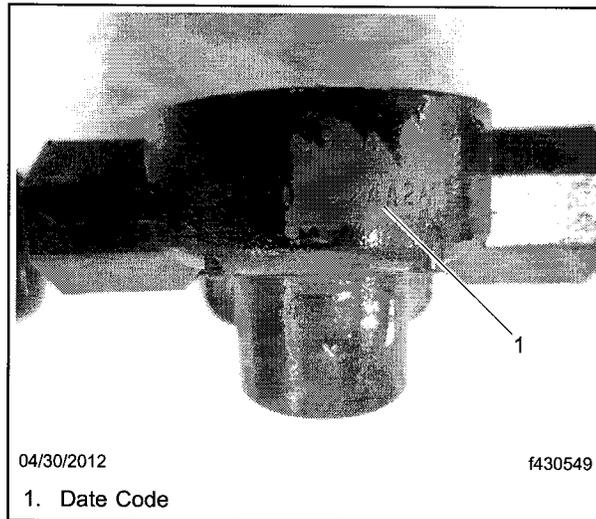

Fig. 1, Quick Release Valve Information
4. Inspect the QRV to determine whether it needs to be replaced. See **Fig. 1** for the location of the date code. Refer to **Table 3** for the affected date codes. If the date code is included in **Table 3**, replace the valve. Go to "Quick Release Valve Replacement" in these work instructions.